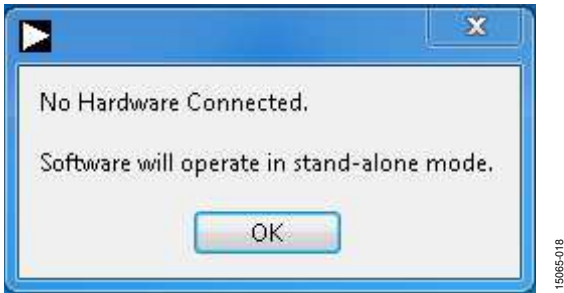

Figure 21. Software Indicates Operating in Standalone Mode
3. If operating in standalone mode, the window in Figure 21 displays.